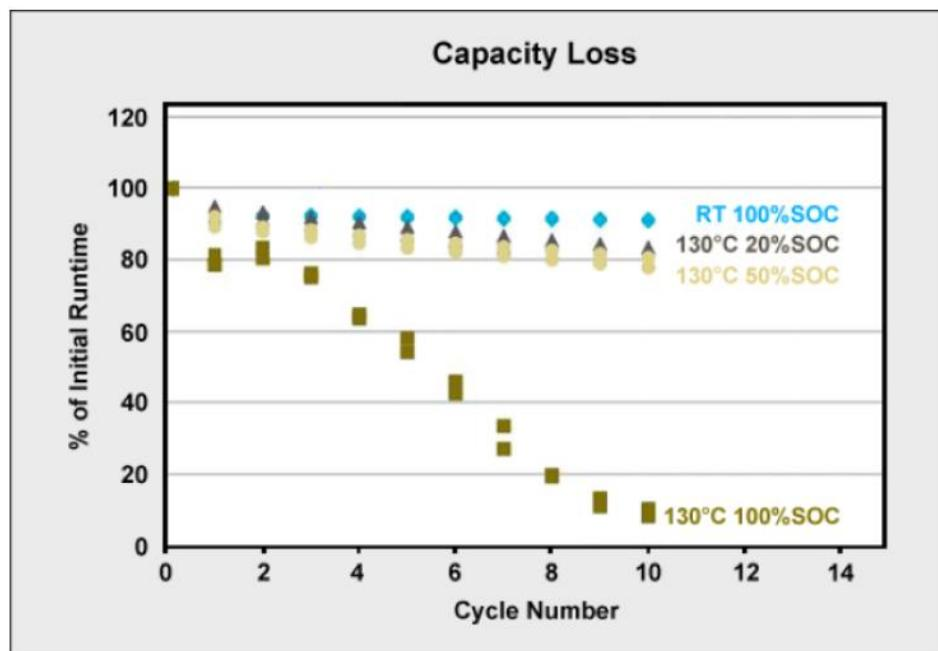

Figure 5: Capacity loss at room temperature (RT) and 130°C for 90 minutes
Capacity loss at elevated temperature is in direct relationship with state-of-charge (SoC). Figure 5 illustrates the effect of Li-cobalt (LiCoO2) that is first cycled at room temperature (RT) and then heated to 130°C (266°F) for 90 minutes and cycled at 20, 50 and 100 percent SoC. There is no noticeable capacity loss at room temperature. At 130°C with a 20 percent SoC, a slight capacity loss is visible over 10 cycles. This loss is higher with a 50 percent SoC and shows a devastating effect when cycled at full charge.